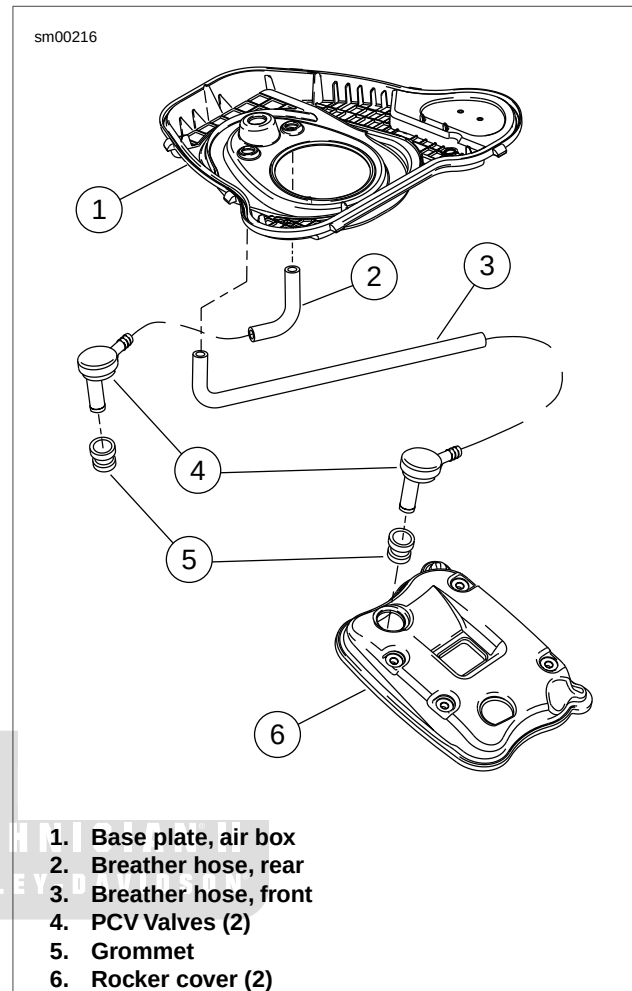

Figure 3-104. Crankcase Breathing System
See Figure 3-104. Air is allowed to escape the rocker boxes by exiting the positive crankcase vent (PCV) valves (4) located on top of the rocker boxes. From the PCV valves the air enters the crankcase breather hoses (2, 3). The crankcase breather hoses route through the air cleaner base plate (1) to the air box where it is directed inside the air filter element and back into the engine, mixed with combustion air.